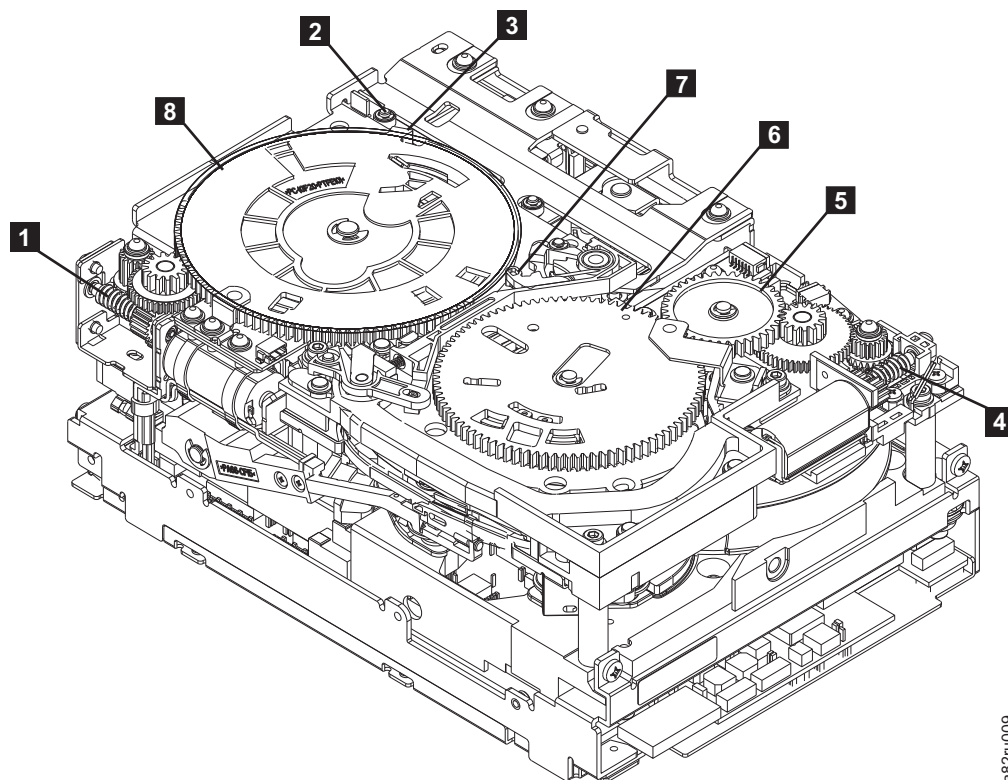
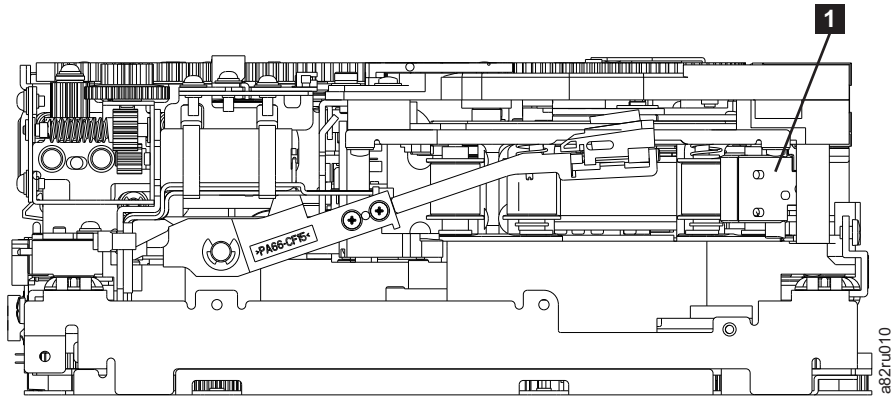

Figure A-20. Drive with cover removed to reveal gear train.
Figure A-21. Leader Block Assembly (LBA)
5. Locate the threader motor worm gear (**4** in Figure A-20 on page A-21) on the rear of the drive. Use your finger to rotate the threader motor worm gear and slowly rotate the threader mechanism gear (**6** in Figure A-20 on page A-21) clockwise. This action rotates the threader motor worm gear (**4** in Figure A-20 on page A-21) clockwise, drawing the LBA into the cartridge.
6. As the tape leader block assembly (LBA) is secured in the cartridge, you hear the LBA retention spring clips click into place. If you do not hear the click, continue rolling until the threader motor worm gear (**4** in Figure A-20) stops. The LBA is in the correct position.
- a. Loader mechanism gear (**6** in Figure A-20) nearest the front of the drive that actuates the cartridge loader mechanism.
- b. Position of the rotate stub (**3** in Figure A-20).
- c. Front loader motor worm gear (**1** in Figure A-20). Rotating this gear allows the loader mechanism gear (**8** in Figure A-20) to turn.
8. Rotate the loader motor worm gear (**1** in Figure A-20) to turn the loader mechanism gear (**6** in Figure A-20) counterclockwise. Continue turning until the rotator stub (**3** in Figure A-20) loses contact with the lever (**7** in Figure A-20). This action releases the LBA leader pin.
9. Rotate the threader motor worm gear (**4** in Figure A-20 on page A-21) to turn the threader mechanism gear (**6** in Figure A-20 on page A-21) counterclockwise. This action moves the LBA out of the cartridge and past the read/write head. Stop this rotation when the LBA is near the tape guide roller nearest the rear of the drive that is shown as **1** Figure A-21.
10. Continue rotating the loader motor worm gear (**1** in Figure A-20 on page A-21) until the rotator stub (**3** in Figure A-20 on page A-21) is positioned as shown. Notice that the rotator stub (**3** in Figure A-20 on page A-21) is nearly aligned with the cartridge loader tray guide bearing (**2** in Figure A-20 on page A-21).